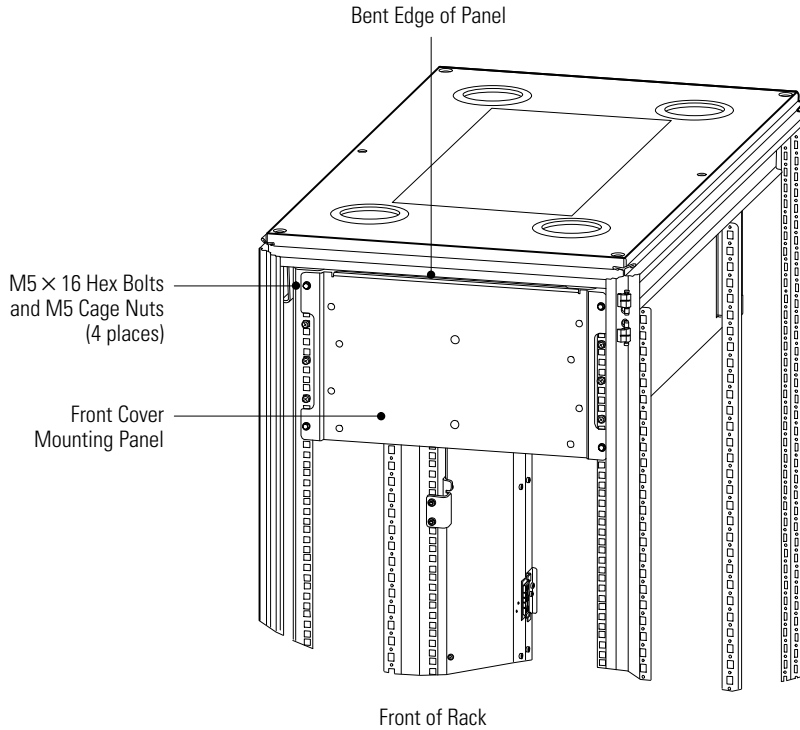

Figure 20. Front Cover Mounting Panel Installation
22. Using four M5 × 16 hex bolts and four M5 cage nuts, secure the front cover mounting panel to the front of the rack. Ensure that the bent edge of the panel is at the top. See Figure 20.